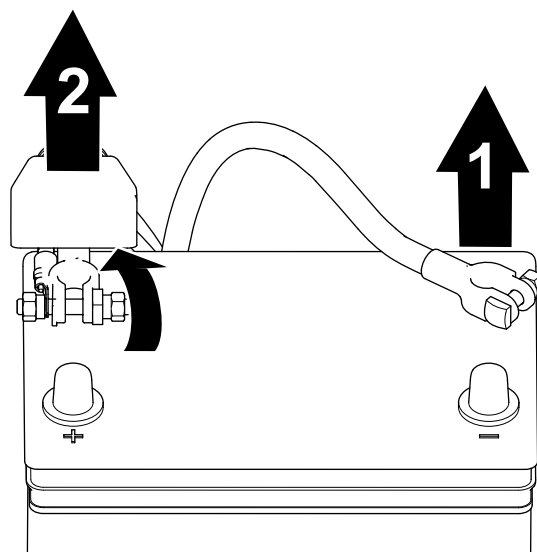

Figure 33
1. Remove the negative battery cable from the battery post (Figure 33).
2. Lift the insulator and remove the positive battery cable from the battery post (Figure 33).